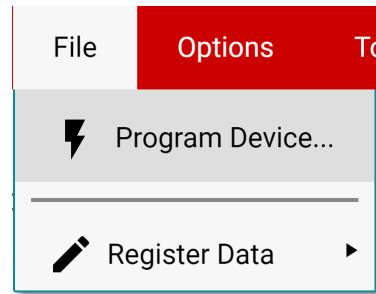

Figure 3-5. Program Device
6. After the SCB has connected to the GUI, update the firmware by going to **File >> Program Device...**, as shown in Figure 3-5.